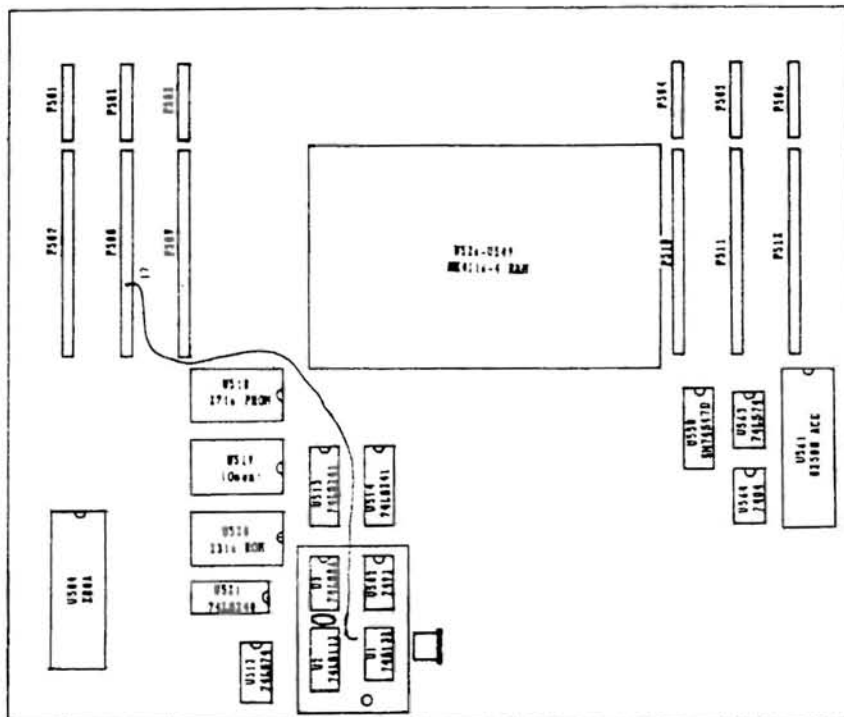
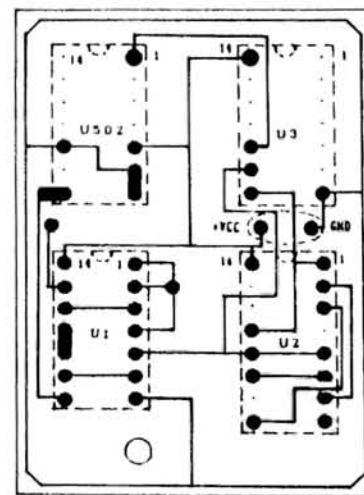

Figure 1 - H89A CPU Board With 4MHz Plug-In
Figure 2 - Underside of Plug-In Board
In REMark #38, p21, Pat Swayne asked for a clever way of installing the 4 MHz modification (REMark #34) on an H89A. The method I will describe in this article has two attractive features: (1) it requires no permanent modification of any standard H89A parts, and (2) it seems to work fine. The essence of the method is depicted in Figure 1 which shows a plug-in piggy-back board (similar to the one Pat described for the H89) which plugs into the U502 socket and also covers U506 and U507.
Building the plug-in module requires a couple of tricks which are best described with the aid of the sketches in Figures 2 and 3. Figure 2 shows the circuit pattern in a typical etched format. While the circuit could be etched if extreme neatness or great quantities were required, I wired mine point-to-point on a piece of perboard using a combination of insulated and non-insulated wire. This is a backside view so that the circuit positions and pin locations are reversed with respect to Figure 1. Also, while the proportions are generally correct, the drawing should not be scaled directly, especially for the mounting hole near the bottom edge. I also added a .01 mfd decoupling capacitor which Pat did not show—probably not necessary but I like to put them in every few IC's. Otherwise the circuit is electrically equivalent to Pat's.